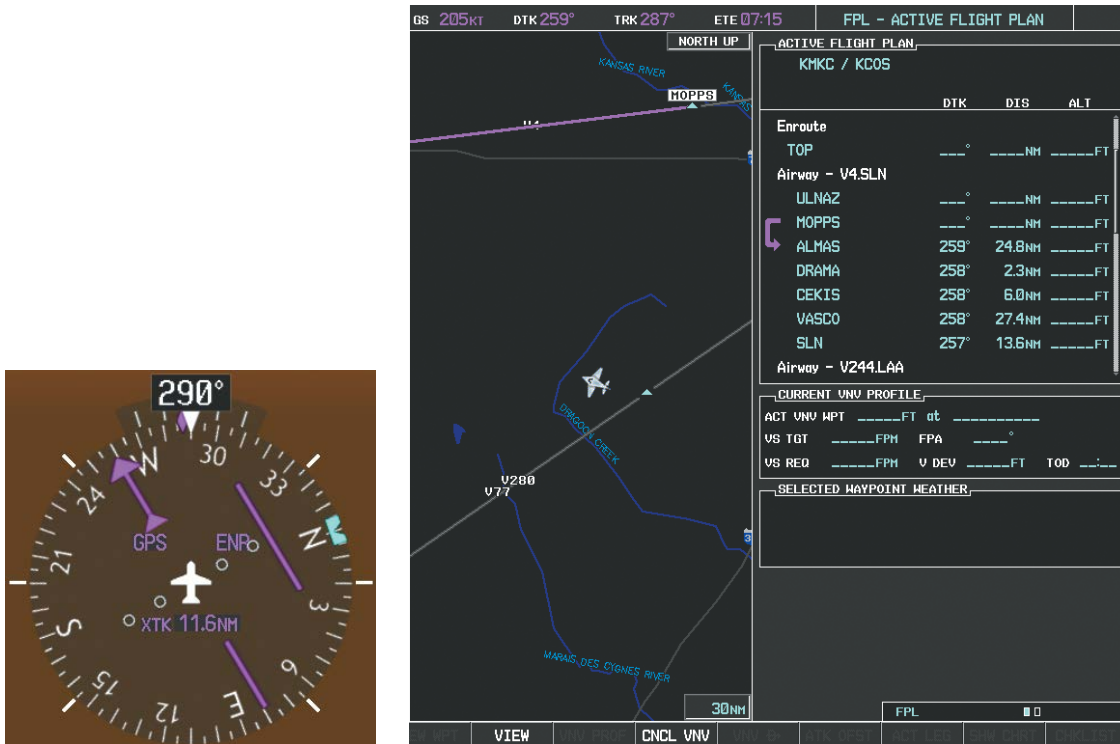

Figure 5-122 V4 Now Active Leg
- d) Verify the displayed leg is the desired leg and press the **ENT** Key. Note in Figure 5-122, the magenta arrow in the flight plan window and magenta line on the map indicating V4 is now the active flight plan leg. Note the phase of flight remained in Terminal (TERM) mode up to this point because a departure leg was active. Since a leg after the departure is now active, the current CDI flight phase is ENR (Enroute) and CDI scaling has changed to 2.0 nm.